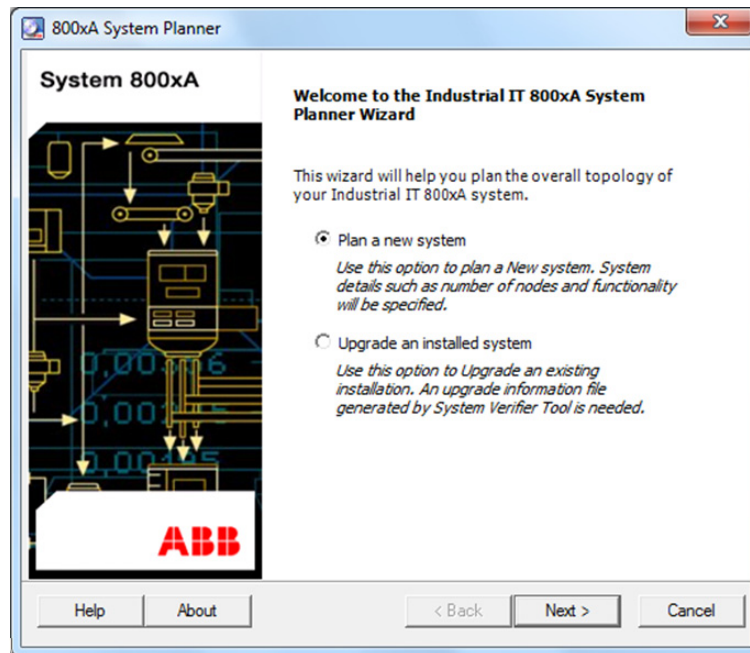

Figure 5. System Planner Wizard Welcome Dialog Box
4. Double-click `System Planner.exe` to launch the System Planner Wizard (Figure 5).